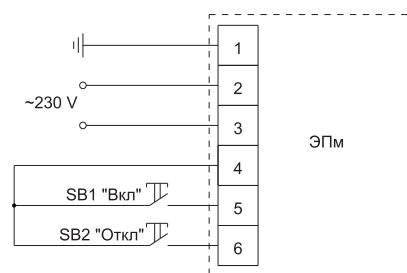

Рисунок 3 – Электрическая схема подключения привода / Figure 3 – Electrical diagram of electric drive connection
Electrical connections during installation of the electric drive must be made in accordance with the diagram (figure 3), using stranded copper conductors with a cross-section of at least 1.5 mm².
– connect the "Off" and "On" buttons to the terminal blocks of the electric drive 2 (the buttons are purchased separately) in accordance with the diagram shown in figure 3.